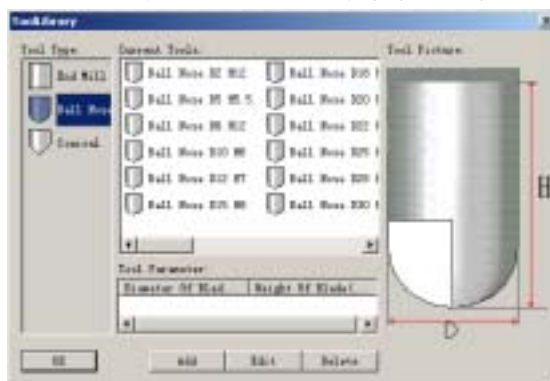

Fig. 10-8
1. Select ball nose from Tool Type (The selected tool is in blue). (Fig. 10-8)